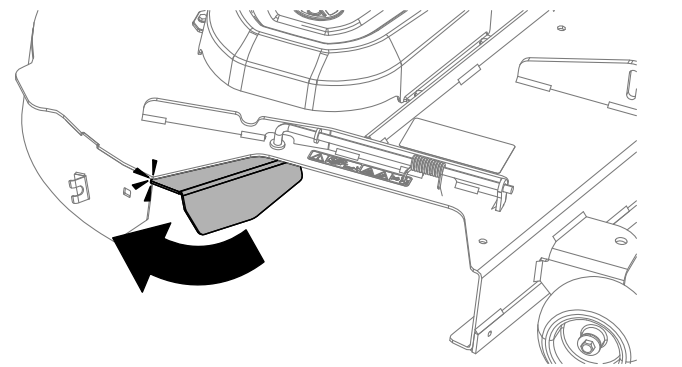

Figure 16
3. Rotate the bagging cutoff baffle to contact the rear edge of the deck (Figure 16).